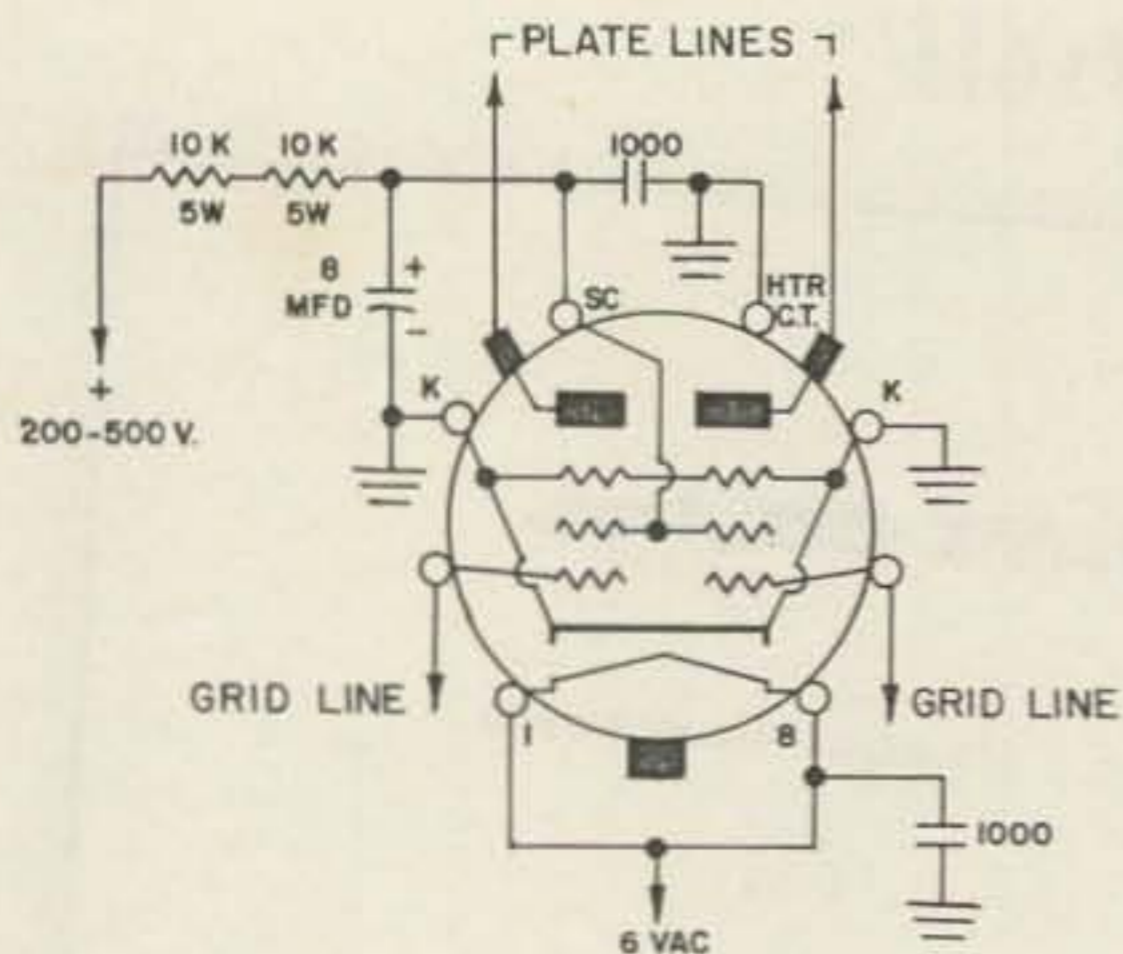

FIG. 5
3. SEE FIGURE 5 FOR SOCKET DETAILS.
Note 2: Grid bias about 15 volts. Note 3: See Fig. 5 for socket details.